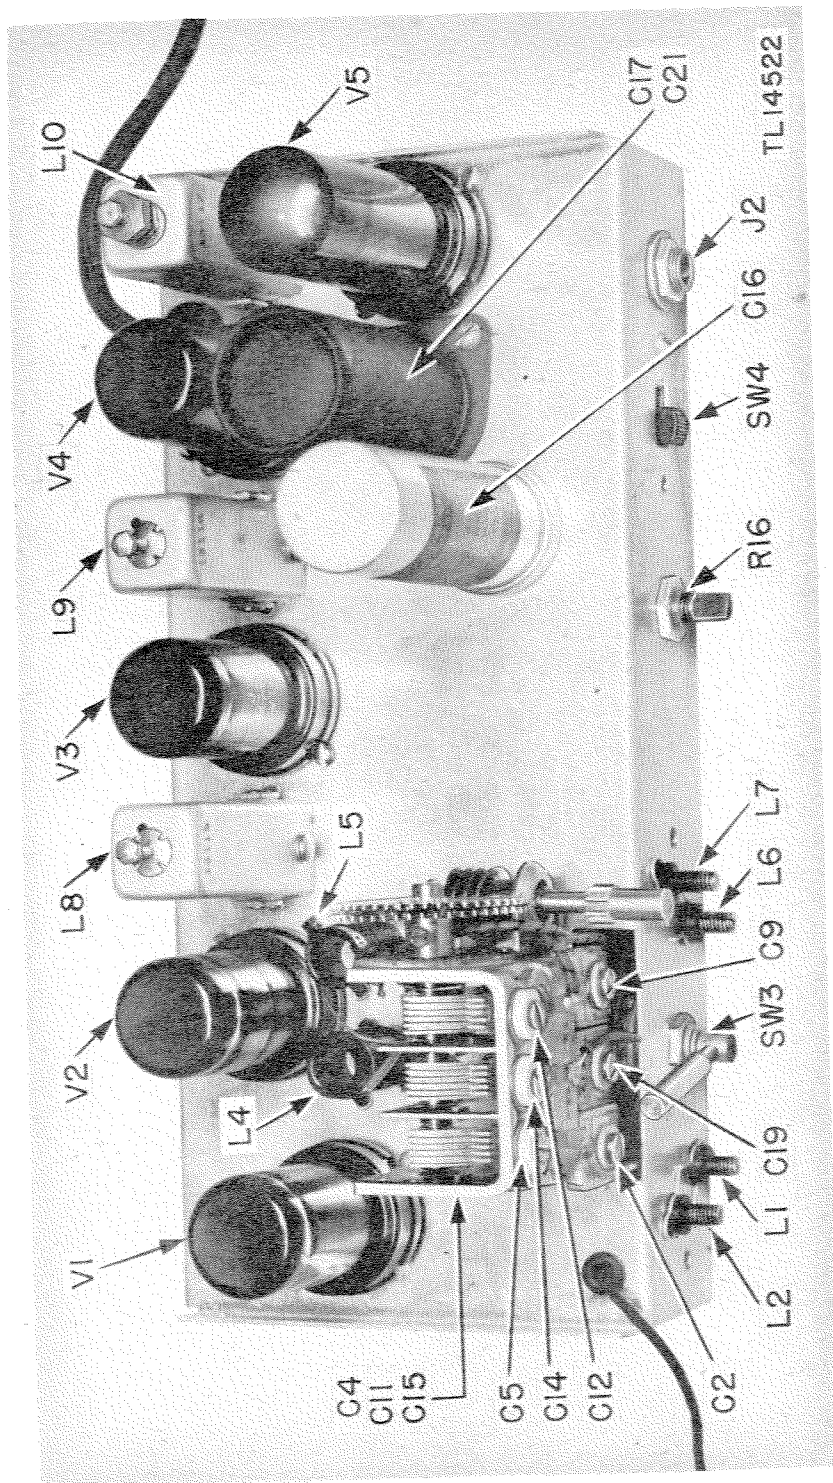

Figure 3. Radio Set AN/PRC-5, receiver chassis.
25. RECEIVER FUNCTIONING (fig. 3). In the REC position of the OFF-REC-SEND switch, the set acts as a five-tube superheterodyne receiver, exclusive of the power supply which is common to both the receiver and transmitter, consisting of one r-f amplifier stage, using a 6SK7 tube; one converter stage, using a 6SA7 tube; one i-f amplifier stage, using another 6SK7 tube; one combined diode detector and beat-frequency oscillator stage, using a 6SR7 tube; and two stages of a-f amplification using both portions of a twin-triode 6N7 tube.
d. High-frequency Oscillator Alignment. Realignment of the high-frequency oscillator circuits for either frequency band is seldom necessary unless the resonant frequency of the receiver, as indicated by the reading of the tuning dial, is greatly in error with respect to the actual frequency being received. The following procedure must be followed in adjusting the high-frequency oscillator trimmers. All adjustments are made with the output of the signal generator connected to the ANT and GND posts, in the upper right-hand corner of the front panel, and with the output meter connected as described in subparagraph a above. Always make the adjustments on band 2 first, since trimmer capacitors C5, C12, and C14 are common to both bands and their adjustment will, therefore, also affect the alignment of band 1. For location of the oscillator trimmer adjusting screws refer to figures 3 and 6.